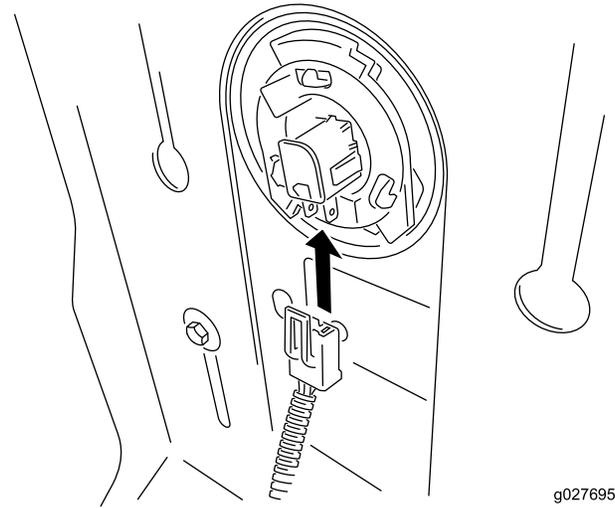

Figure 3
- Connect the seat switch (Figure 3).